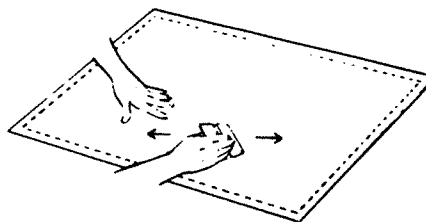

Figure 7
C. Squeegee to tape from center out (Figure 7).